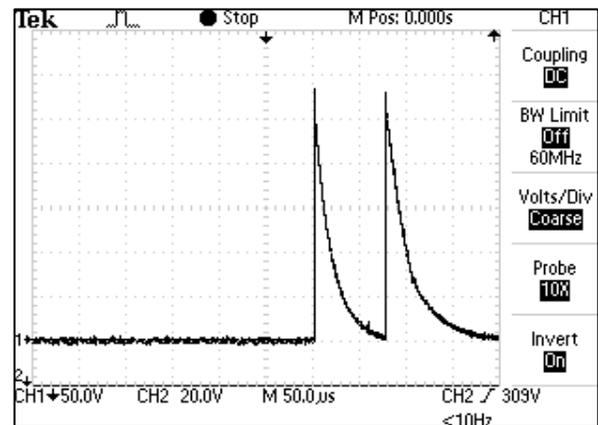

Figure 6.9
9. Compare waveform form on scope to **Figure 6.9**.